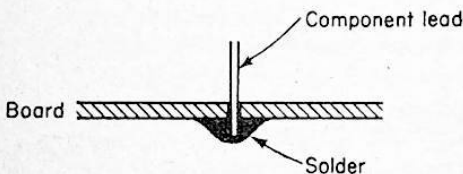
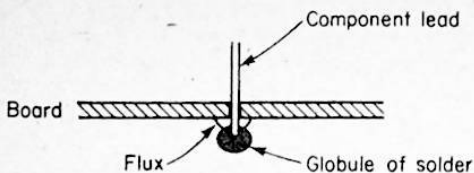

Fig. 22. A good p.c.b. soldered joint.
Fig. 24. A dry joint can provide a mechanical bond.
A side view of a good p.c.b. soldered joint should look something like the diagram which is shown in Figure 22. Here the solder has flowed tightly around the lead and over a fairly large area of copper backing. Apart from providing a good electrical connection, this also provides a firm physical mounting for the component, which is just as important.
2. A dry joint which provides a mechanical bond. A side view of this type of joint is shown in Figure 24. Here it is flux rather than solder which is securing the lead to the copper track. There is no electrical contact since flux is an insulator. This type of dry joint is obviously rather harder to detect than the type described in 1 above. It can be spotted however, because the solder does not flow outwards over a comparatively large area of copper backing, as in Figure 22. Provided the joint is as shown in Figure 22, then all should be well.